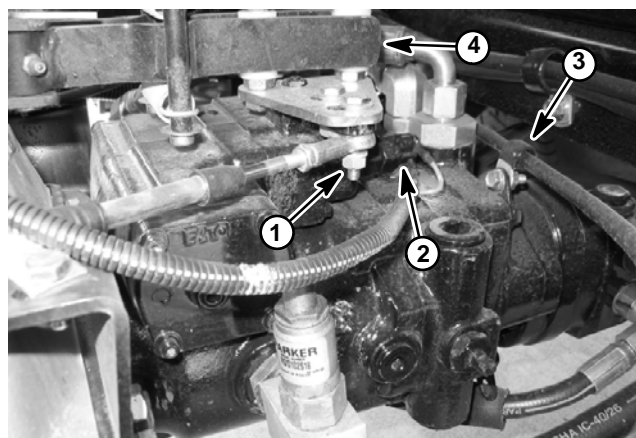

Figure 32
6. Connect two (2) wires to neutral switch on piston pump (Fig. 32).